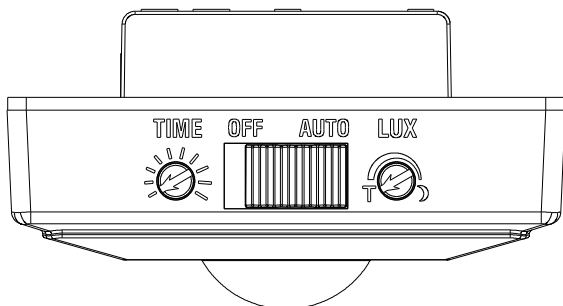

FIGURE 8
- Turn the Lux control and the Time control counter-clockwise to the edge- the TEST position. (FIGURE 8)